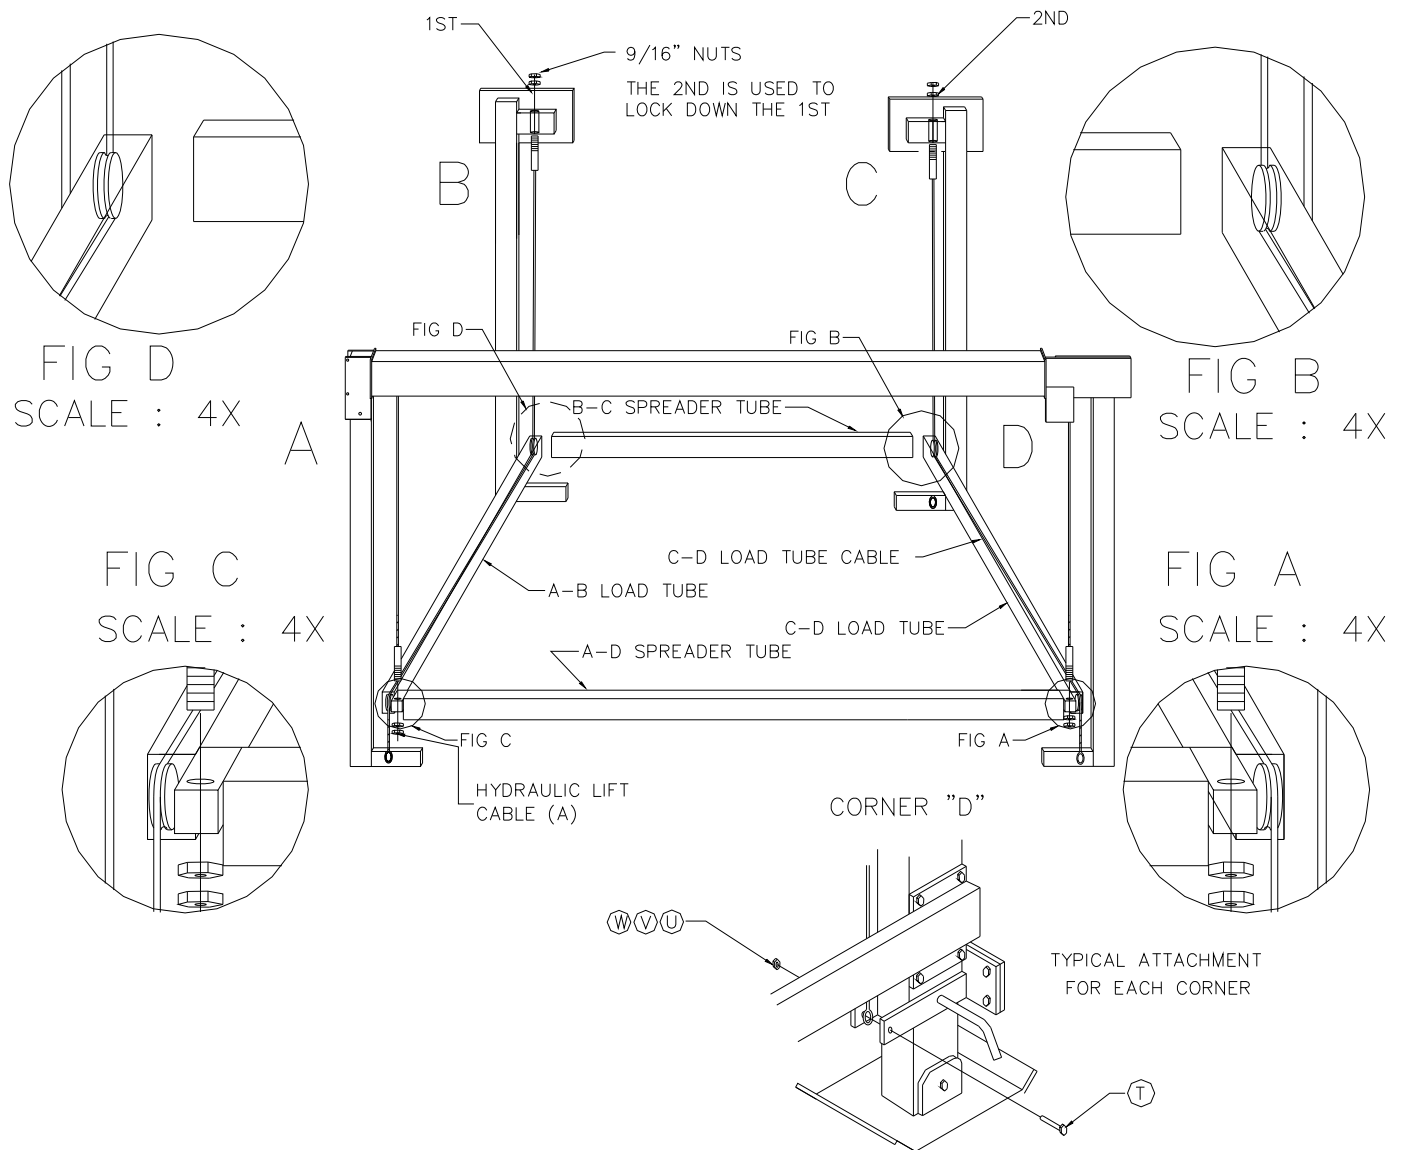

Figure 3-8
2. Refer to Figure 3-8. The load tubes are already reeved. Fasten the cable end loops to the bracket provided at the bottom of vertical legs A & D.
3. Using a 7/8” open-end wrench, tighten the cable studs opposite the cable end loops in the following order. The following step numbers correspond to the step numbers shown in Figure 3-8.